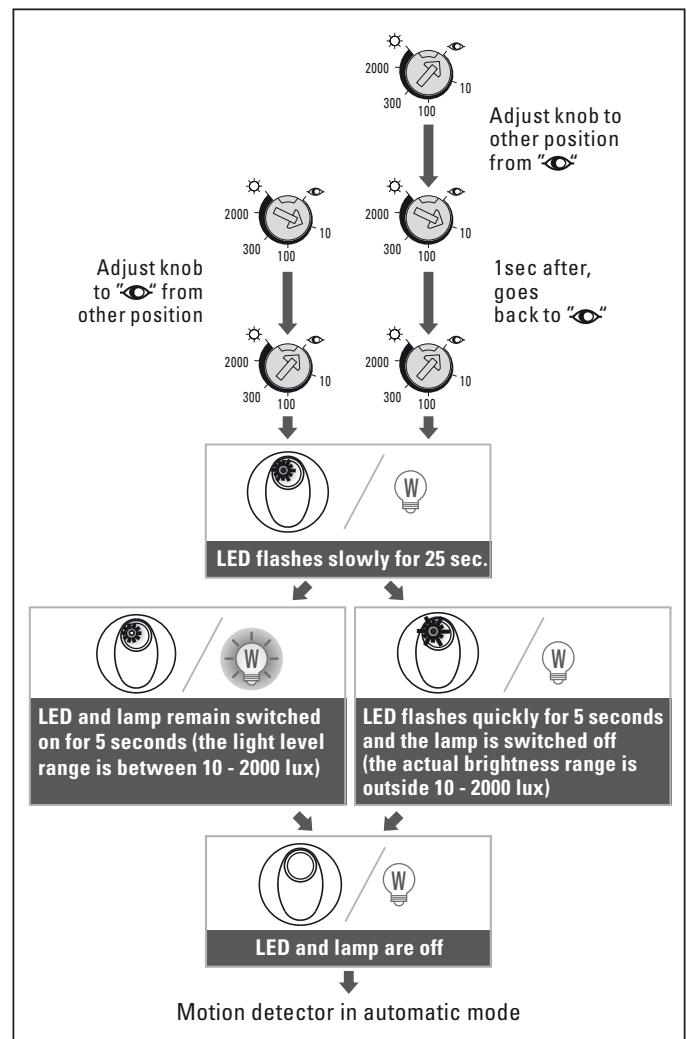

Fig. 13
1. Set the controller to if the ambient brightness corresponds to the desired value (Fig. 13).
2. If the controller is already set to it must be moved to another position for more than 1 s before it can be moved back to (Fig. 13).
3. The load is then switched off. The LED starts to flash slowly to indicate that the teach-in function is activated. The teach-in function is completed within 25 s. The LED and the load then remain switched on for 5 s or the LED flashes quickly for 5 s and the load is switched off to confirm successful teach-in (Fig. 13).